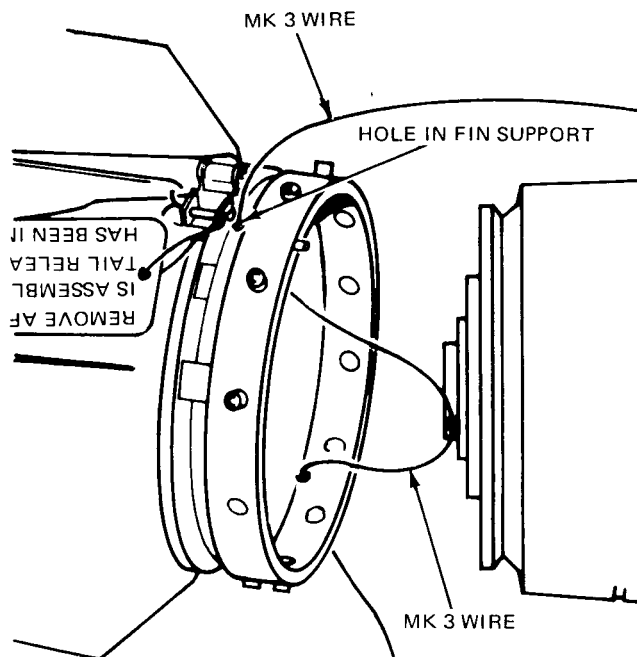

Figure 3-12. Arming Wire Installation
6. Insert free end of arming wire MK 3 into small hole in fin support between index pin and release band (figure 3-12).
8. Thread arming wire MK 3 through pop-out pin of tail fuze (figure 3-12). Then pass wire through small hole at bottom of fin support.